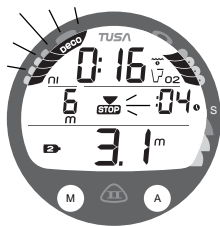

Fig. 62 - DV1 MAIN
**DV1 Main**, information includes (Fig. 62) -